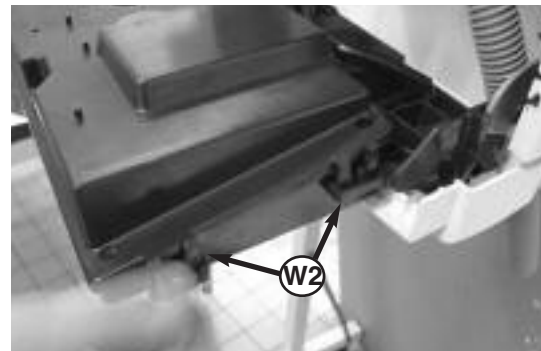

Fig. 104
3. Release the three clips **W2** and remove the electrical box cover (see Fig. 104);